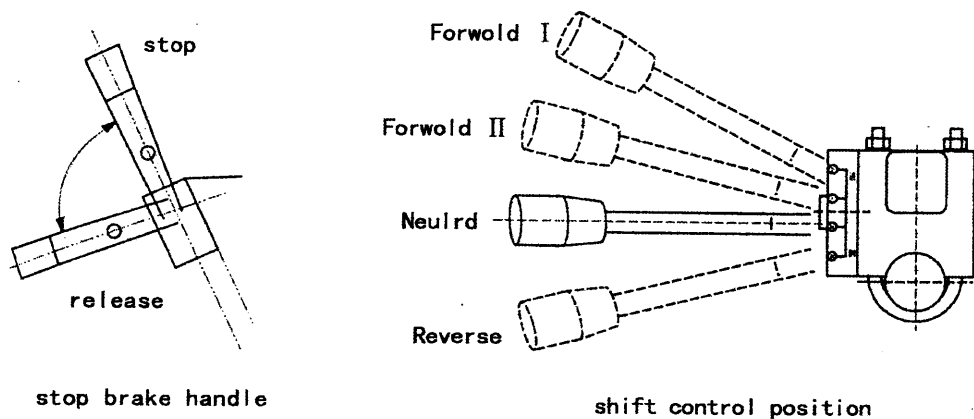

Fig. 2-2
2、Shift operation : (figure2-2)